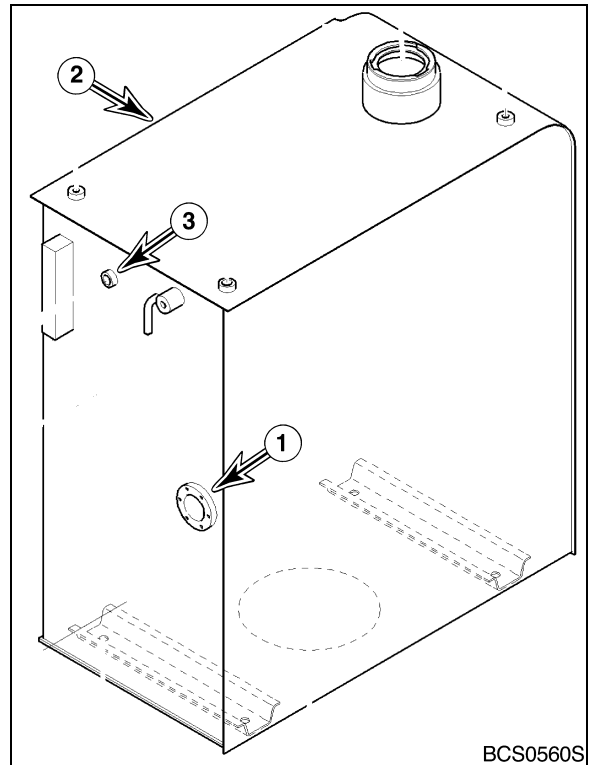

Figure 8
16. Tag and disconnect wires leading to fuel sensor (1, Figure 8) on side of fuel tank (2).
17. If equipped, remove components from the fuel filler pump port (3, Figure 8) on side of fuel tank (2).